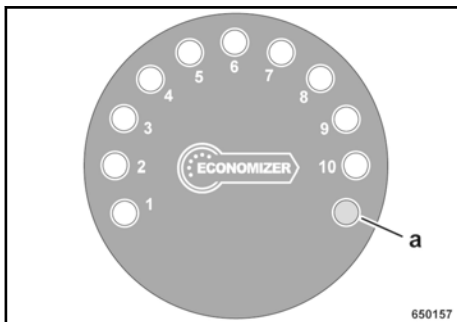

Fig. 76
The system first performs an LED-test. The LEDs light up one after the other, starting with LED (1) → Fig. 76. Once all LEDs are on, the display goes out again in single steps.